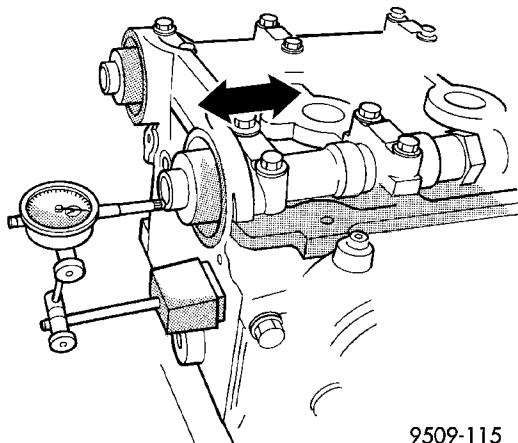

Fig. 24 Camshaft End Play - Typical
- (3) Zero dial indicator (Fig. 24).
- (4) Move camshaft as far forward as it will go.
- (5) Record reading on dial indicator. For end play specification, (Refer to 9 - ENGINE - SPECIFICATIONS).
- (6) If end play is excessive, check cylinder head and camshaft for wear; replace as necessary.